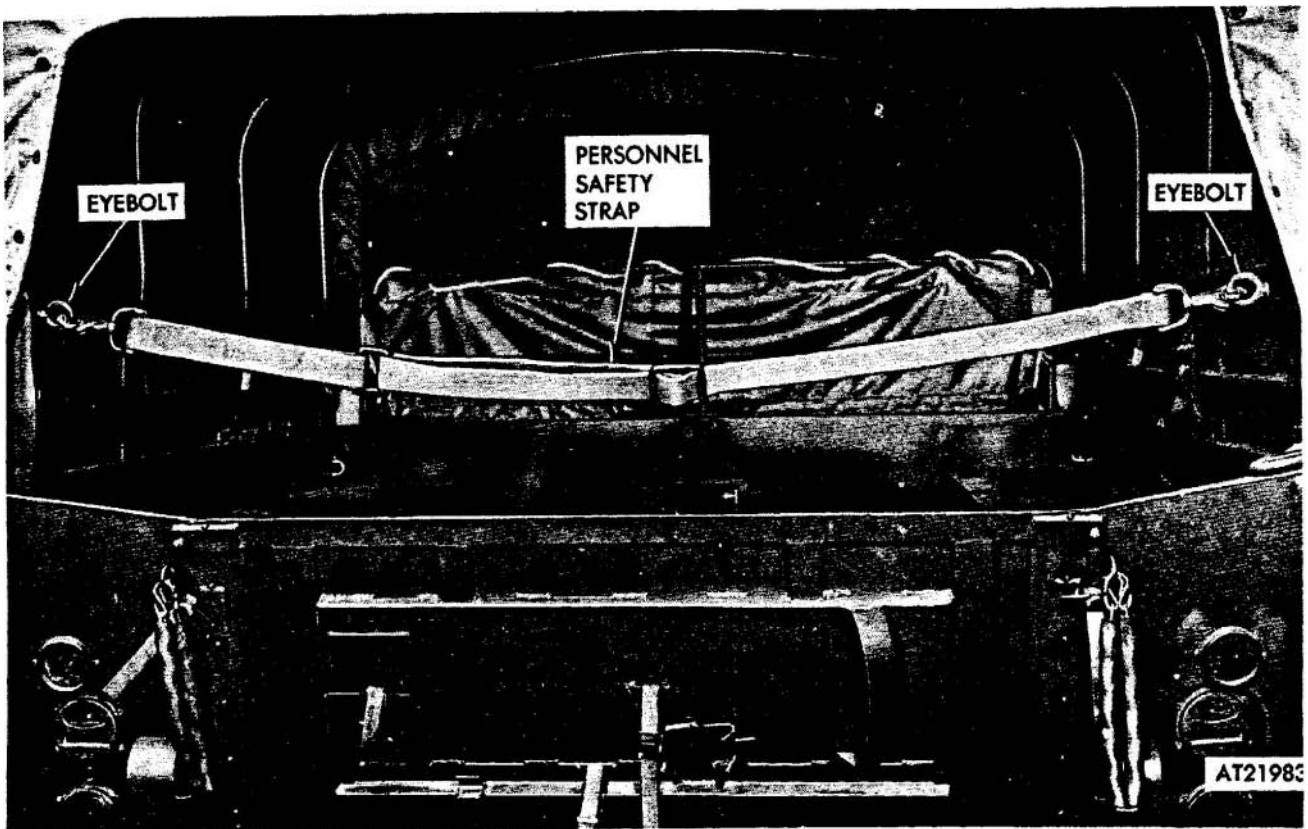

Figure 2-331. Personnel safety strap, removal and installation
(1) Remove safety strap by disconnecting strap from both eyebolts on rear of carrier seat backs (fig 2-331).
(2) Connect safety strap to eyebolts on rear of carrier seat backs (fig 2-331).